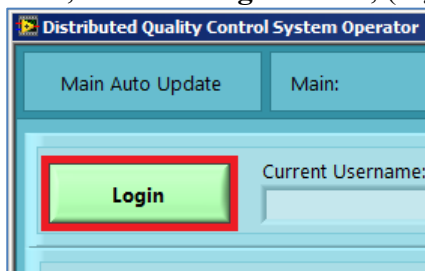

Figure 1.3-1: The **Login** Button.
1. Go to the **Configuration** page on DQCsys Operator by clicking the **Configuration** button located on the navigation bar (Figure 1.3-1).
2. Next, click the **Login** button, (Figure 1.3-1).